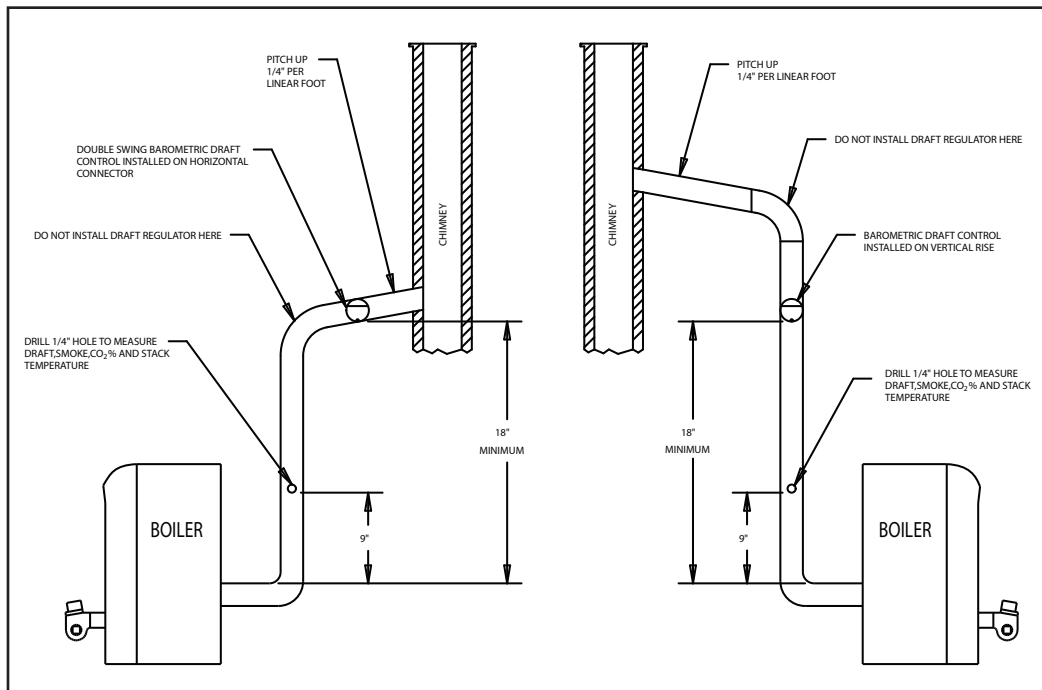

Figure 2.
- F. Flue Connection: Connect flue pipe between top of boiler and chimney. Horizontal sections of flue pipe must be pitched upward to the chimney at least 1/4" per foot. Flue must be inserted into, but not extend beyond, the inside wall of the chimney flue. Draft regulator is not required but may be installed if conditions warrant it. Install draft regulator in flue pipe, as shown in figure 2.
- B. The observation port cover is mounted on the hinged burner mounting door (see figure 2 on page 2). NEVER touch the port cover or any surrounding surfaces with hands. It may be HOT. See the burner instructions for bleeding air, etc. Step away from the boiler and start the oil burner.